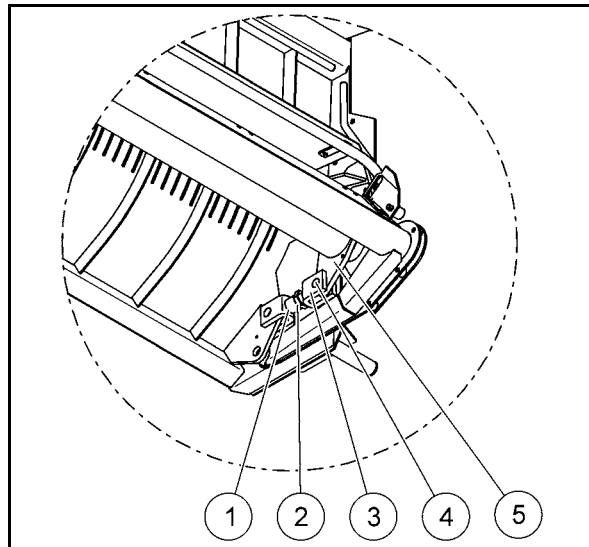

Fig. 118
5. Adjust the distance between the cutting knives and the rotor at the respective upper link (Fig. 118/1) on the right-hand and left-hand side of the machine if the measured value is not approx. 20 mm.
5.1 Unscrew the counter nut (Fig. 118/2).
5.2 Remove the bolt (4) to loosen the upper link fork (Fig. 118/3) from the receiver pipe (5).